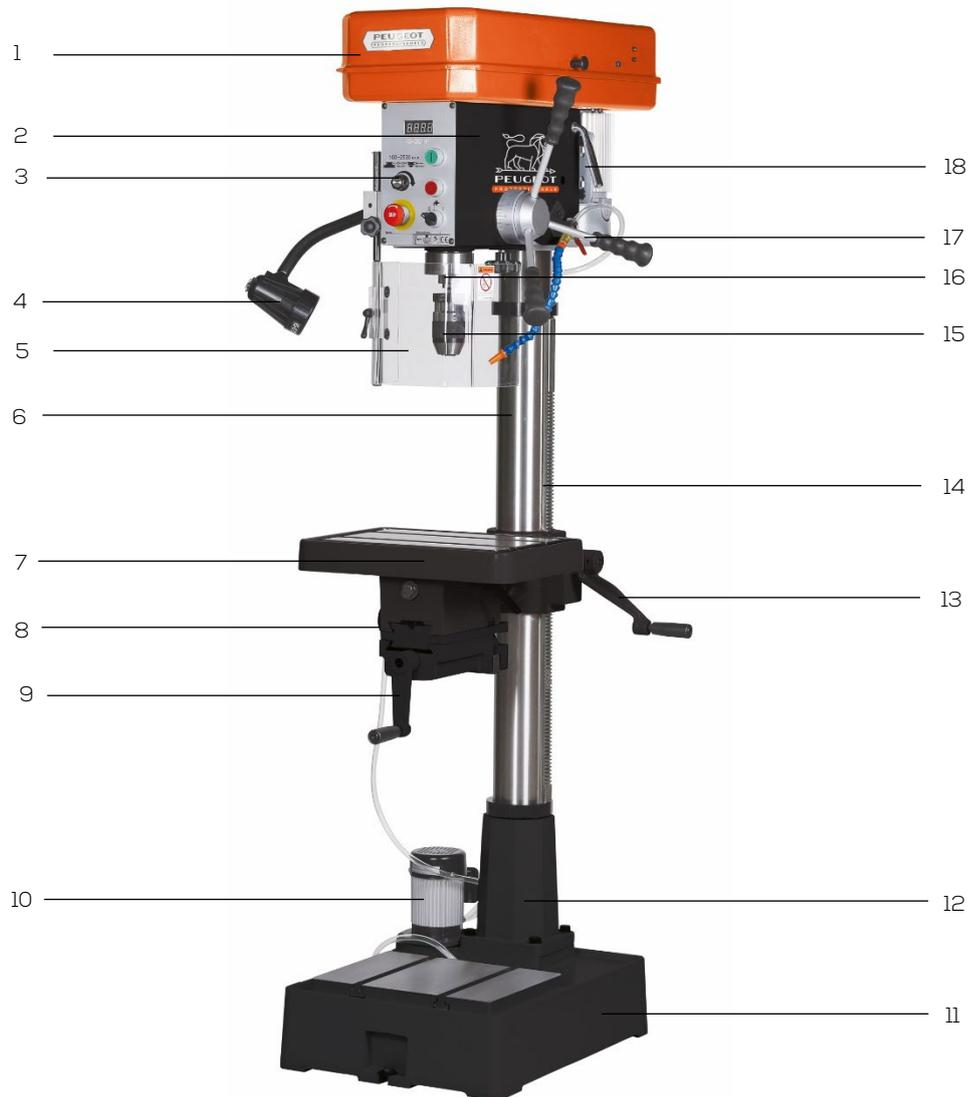

Figure 1
Drill holes for fastening at the base anchoring points (17 fig.1) and proceed with fastening.
1. Place the table vice "up/down" crank handle with its knob (20 fig.1) on the pinion shaft of the table vice support collar and tighten the crank handle clamping screw against the flat part of the pinion shaft (A).
2. The capstan arms (29 fig.1) must be correctly installed for spindle descent:
- Screw the capstan arms onto the capstan (B) and tighten.
3. Assemble the complete chuck guard assembly (9 fig.1) correctly.
4. Tighten the chuck guard movement lock handle (8 fig.1).
6. drill head (4 fig.1).
7. Insert the circlip (E) to prevent the pin from coming out of its holder.
8. Position the shaft and tighten the handle (5 fig.1).